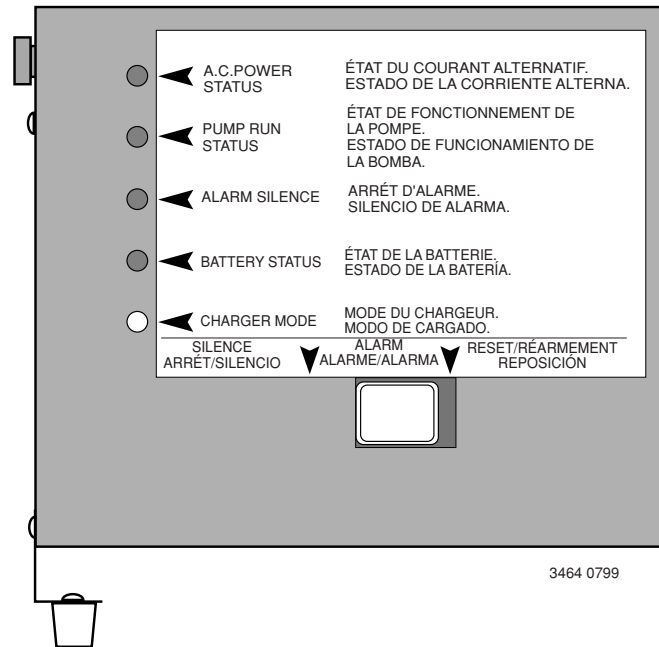

Figure 12 – FP2800DCC LED Panel
3. With the charger properly connected and plugged in, the panel on the front of the charger will show one or more of the following conditions (See Figure 12).